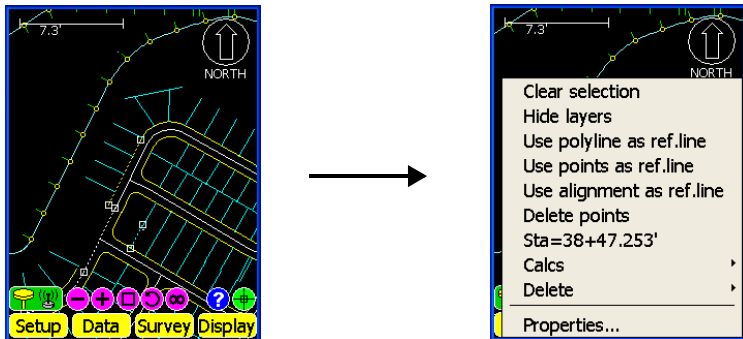

Figure 6-6. Select a Polyline, Alignment, or Points on Main Screen
1. Select a polyline, an alignment, or at least three points on the main screen (Figure 6-6 on page 6-7).
2. Press and hold the selection on the main screen and tap **Use <points/line> as ref.line** (Figure 6-6 on page 6-7).